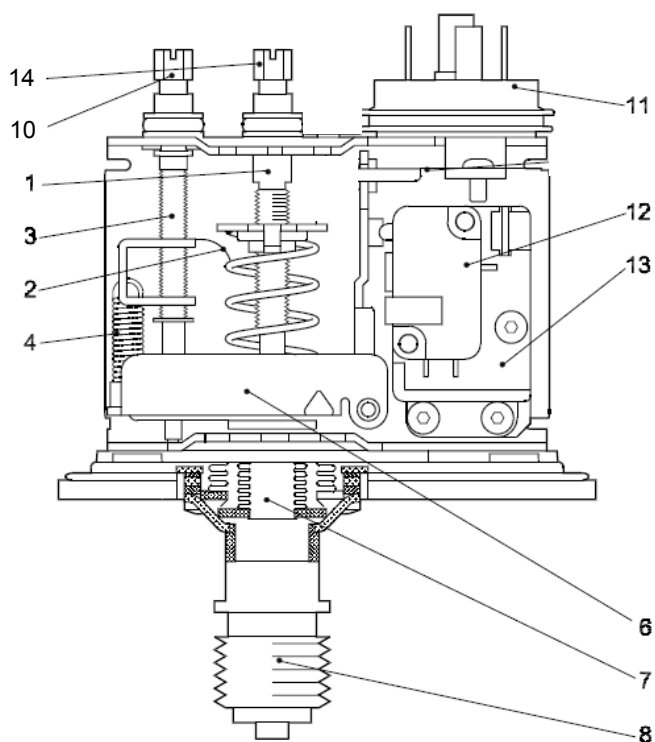

Fig. 6
2.1.4 DESEN SCHEMATIC FUNCTIONARE (Fig. 6)